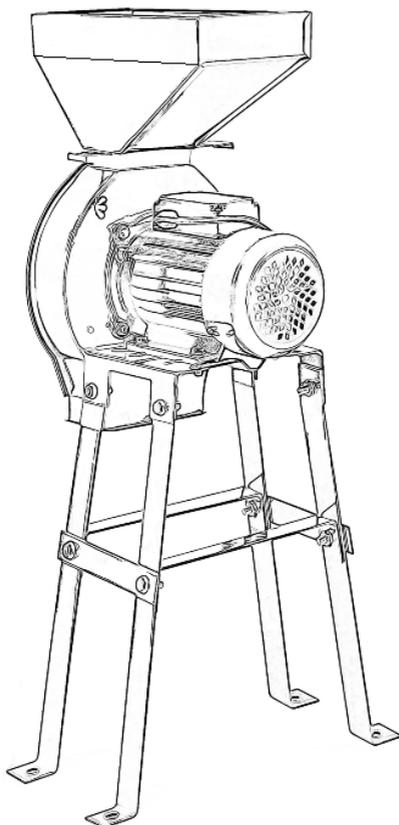

Fig. 4
- Secure the base plate of the electric motor (6) firmly to the work surface using 4 screws. Make sure that the loaded hopper is heavy and that the appliance cannot tip over with the base.
- Place a suitable container under the ejector (7).
- An example of a correctly installed device can be found in Figure 4.